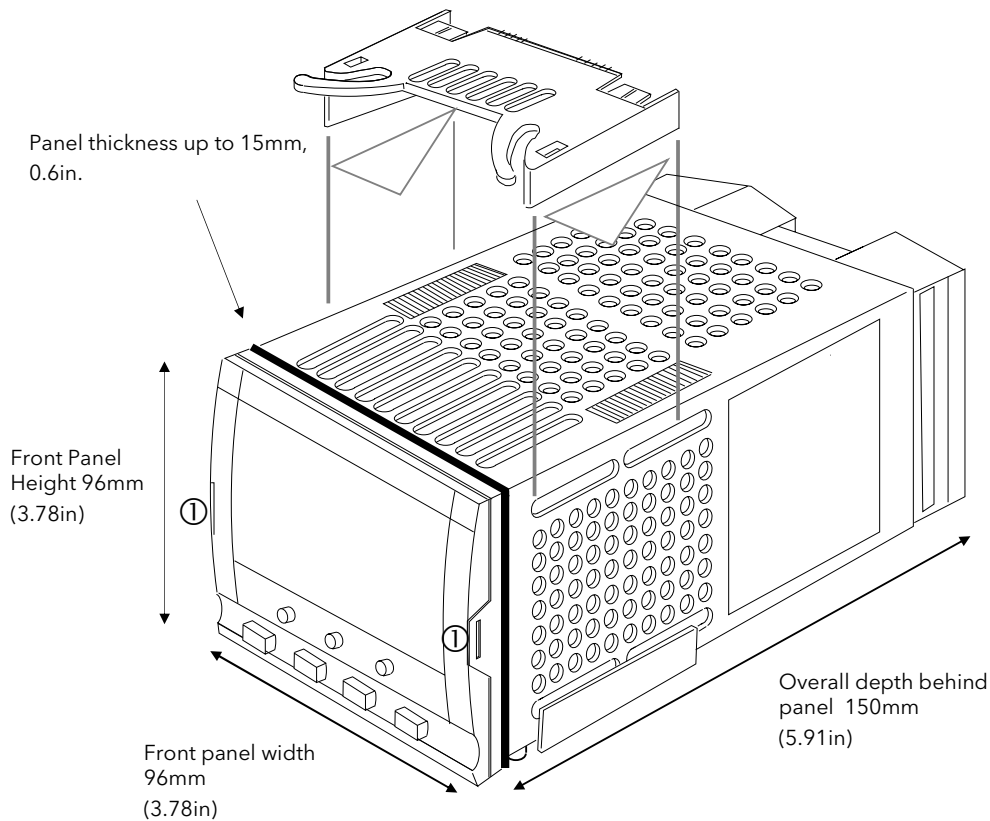

Figure 2-1: Outline Dimensions
Remove the controller from its sleeve by pushing both latching ears ① (Figure 2-1) outwards, then ease the controller forwards from its sleeve. It should not be necessary to use any tools for this.